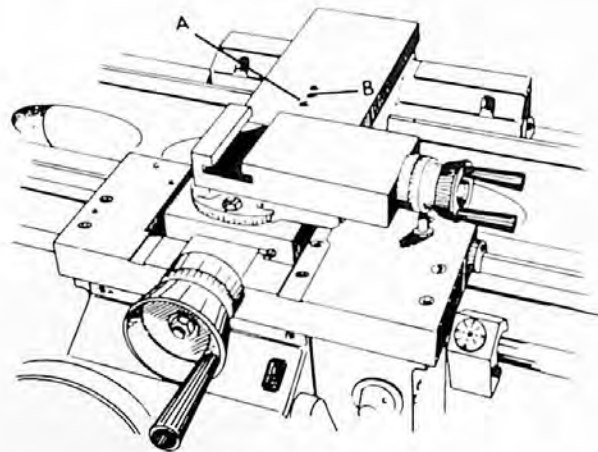

FIGURE 25
Backlash in either cross slide or tool post slide handwheel can be removed by tightening nut (C or D, figure 25). Do not overtighten to prevent over loading the bearing.
1. Loosen socket cap screw (A, figure 25) in top of cross slide.
2. Turn cross slide handwheel right and left while slowly tightening set screw (B) until backlash is eliminated.
3. Tighten cap screw (A).